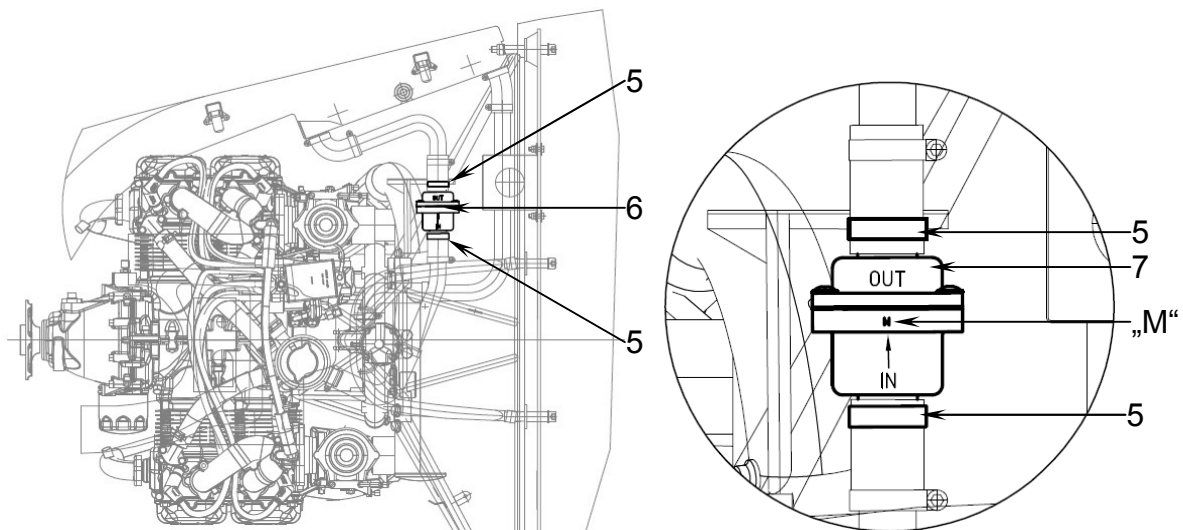

Figure 4
3. Water thermostat replacement (Figure 4).